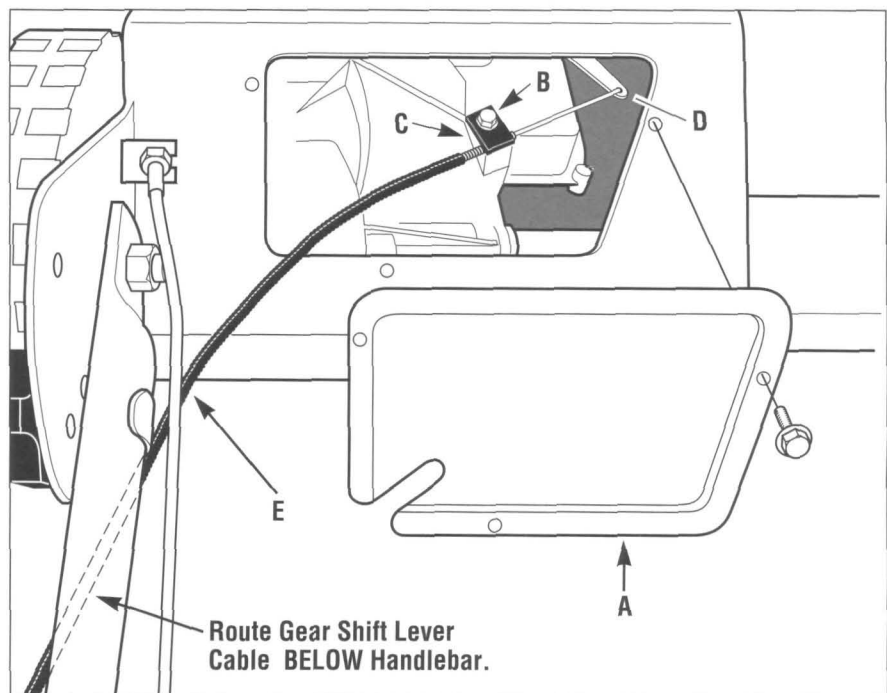

Figure 2-4: Install Gear Shift Lever Cable.
**A.** With a 3/8" wrench, remove the three self-threading screws from the transaxle access cover (A, Figure 2-4) located on the rear of the mainframe. Remove the cover.
**C.** With a 3/8" wrench, loosen the cable clamp screw (B, Figure 2-4) and swing the cable clamp (C) to one side.
**IMPORTANT:** The transaxle shifting arm (D, Figure 2-4) is preset in 4th gear. Do not move the shifting arm before installing the cable.
**D.** Gently route the cable (E, Figure 2-4) **below** the handlebar and insert the "Z" hook end of the cable wire into the top of the transaxle shifting arm (D).